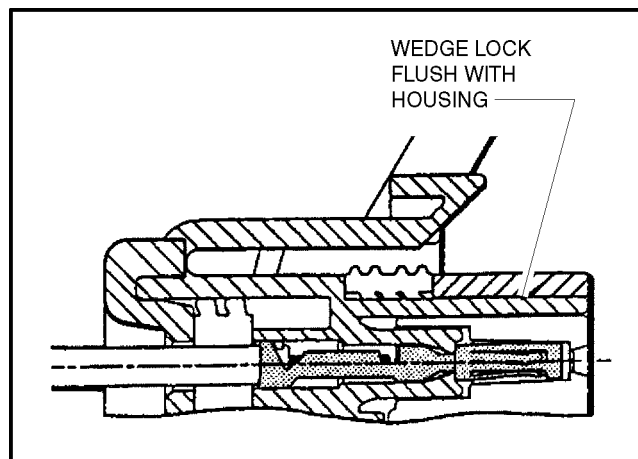

Figure 7-10. Connector Assembly Figure 4
4. Slide the wedge lock into the housing until it is flush with the housing (See Figure 7-10.).